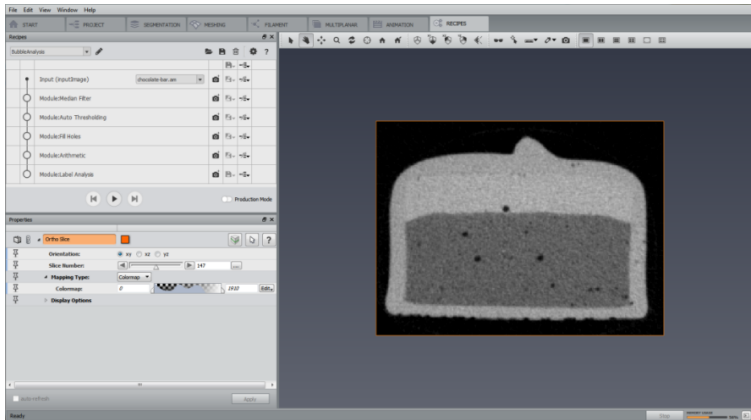

Figure 5.8: Recipes Workroom
- Attach a *Create Recipe* module to *Result.label* (result from previous *Label Analysis* module), and click **Apply**. Avizo will switch automatically to the *Recipes* workroom (see Figure 5.8).